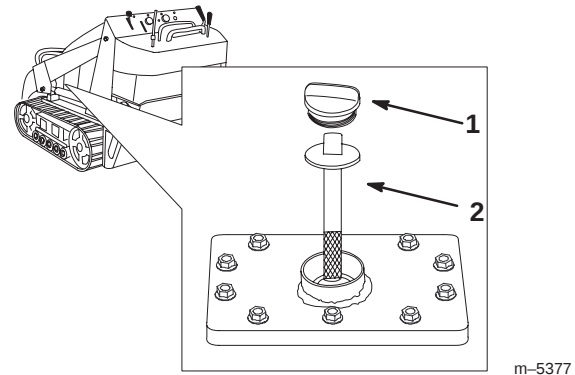

Figure 46
5. Remove the hydraulic tank cap and dipstick (Fig. 46).